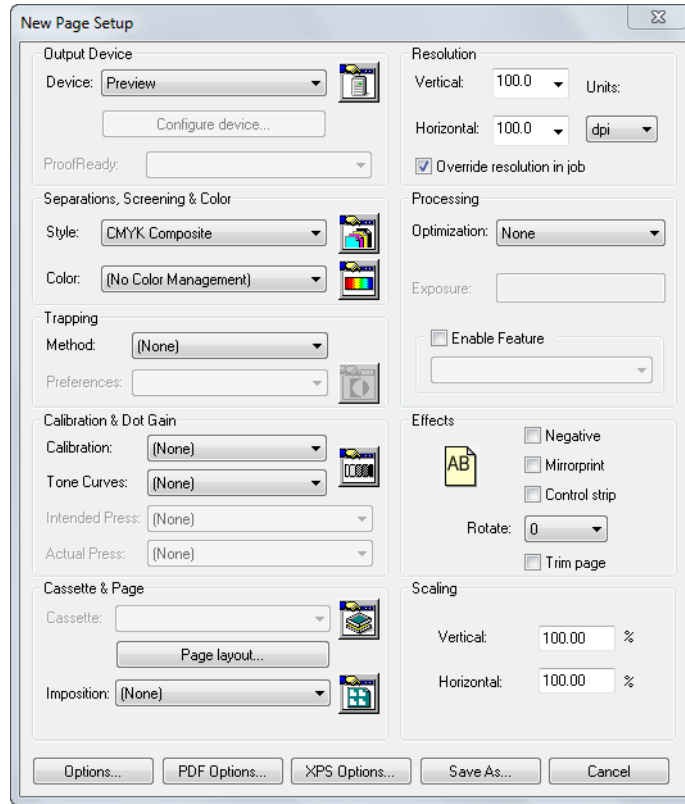

Figure 3.2 New Page Setup dialog box
3. In the Edit Page Setup dialog box, shown in Figure 3.2, set the **Device** to `None` and the **Vertical** and **Horizontal** resolutions to something small, say 72 dpi. If you change the **Device**, you must choose a separations style listed in the **Style** drop-down list and, for some devices, a cassette name from the **Cassette** drop-down list.
2. In the Page Setup Manager dialog box, select `Default Page Setup` and click **Copy** to display the New Page Setup dialog box. The New Page Setup dialog box is very similar to the Edit Page Setup dialog box, shown in Figure 3.2 on page 53.